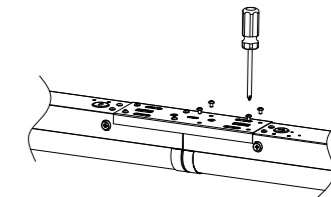

Figure 10
- Step 2. Align the other fixture to the bracket and lock the screws (Figure 10)